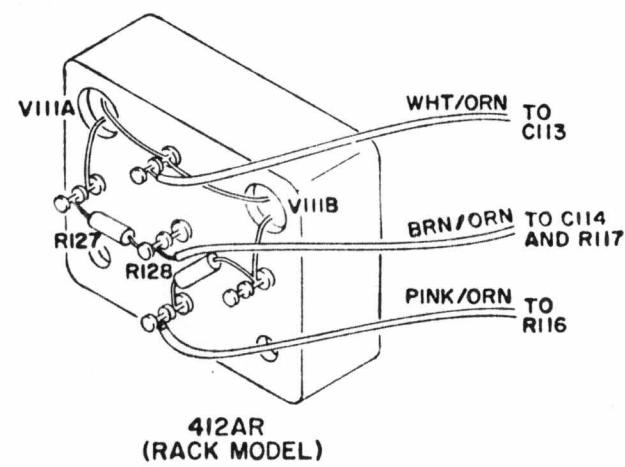

Figure 5-6. Demodulator Assembly
- e. Connect test ohmmeter common lead to Demodulator terminal with pink/orange wire. See Figure 5-6.
- b. Disconnect the three wires to Demodulator assembly. Figure 5-6 shows wire color codes for both cabinet (412A) and rack (412AR) models.